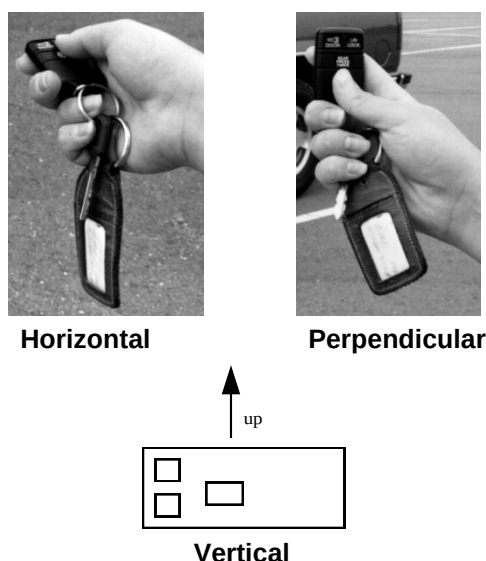

Figure 1: Fob Positions
4.1.5 Holding the Key Fob. Measure 1 m from the ground to a point along the right side of your body. This is the height you must hold the fob for the entire test. Hold the fob in your hand with index finger curled under fob (current fobs have a groove on the underside). The fob polarization positions shown in Figure 1 are the most common.
4.2.2.1 Right Hand, Open Range, Normal Ambient. Baseline RFA range performance with no outside influences (jamming, temperature, humidity) using the right hand to activate the fob in the horizontal position from Figure 1.
4.2.2.3 Vertical, Open Range, Normal Ambient. Test using worst case hand from preceding using vertical hand position shown in Figure 1.